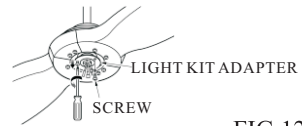

FIG.12
1. Remove 1 of 3 screws on light kit adapter, and loosen the other 2 screws. (See Fig.12)